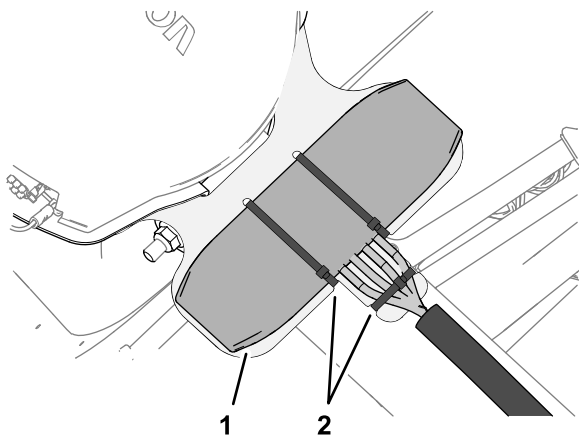

Figure 54
4. Secure the antenna bracket with 3 cable ties as shown in Figure 54.
5. Secure the wire harness of the modem antenna to the bracket as shown in Figure 54.